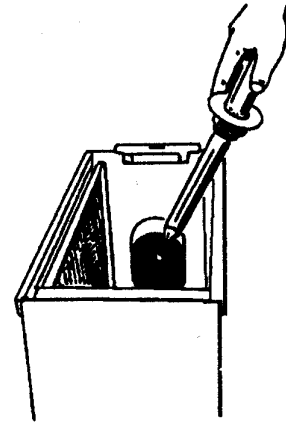

Figure 11
11. If no voltage is present, remove both cells and measure the power supply output. While depressing the safety switch, touch the end of the high voltage probe to either the front or rear contact board assembly (Figure 11). The meter should read 6.2 kVDC or higher (depending upon the specific model).